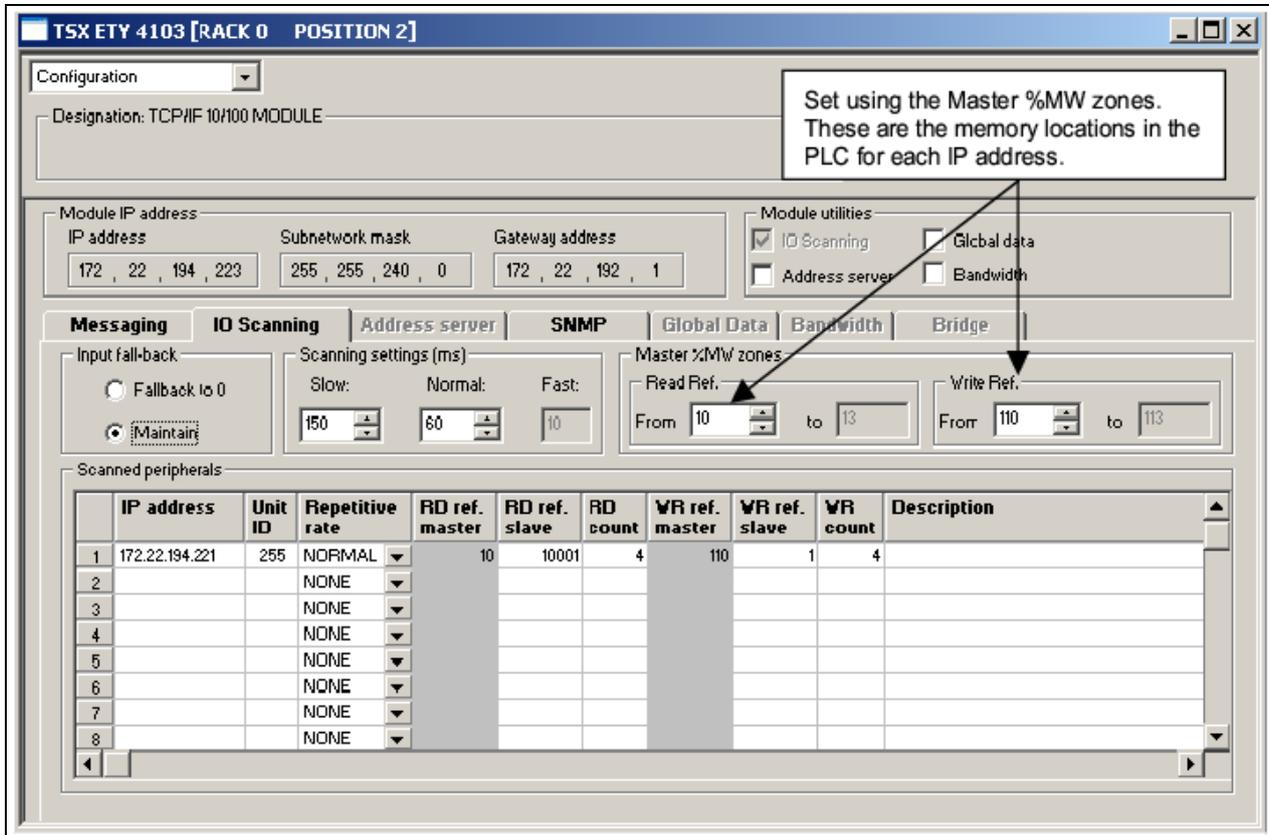

Fig. 3.7 Master %MW zones
- Set the Master %MW zones as appropriate for you PLC configuration. See Fig. 3.7.